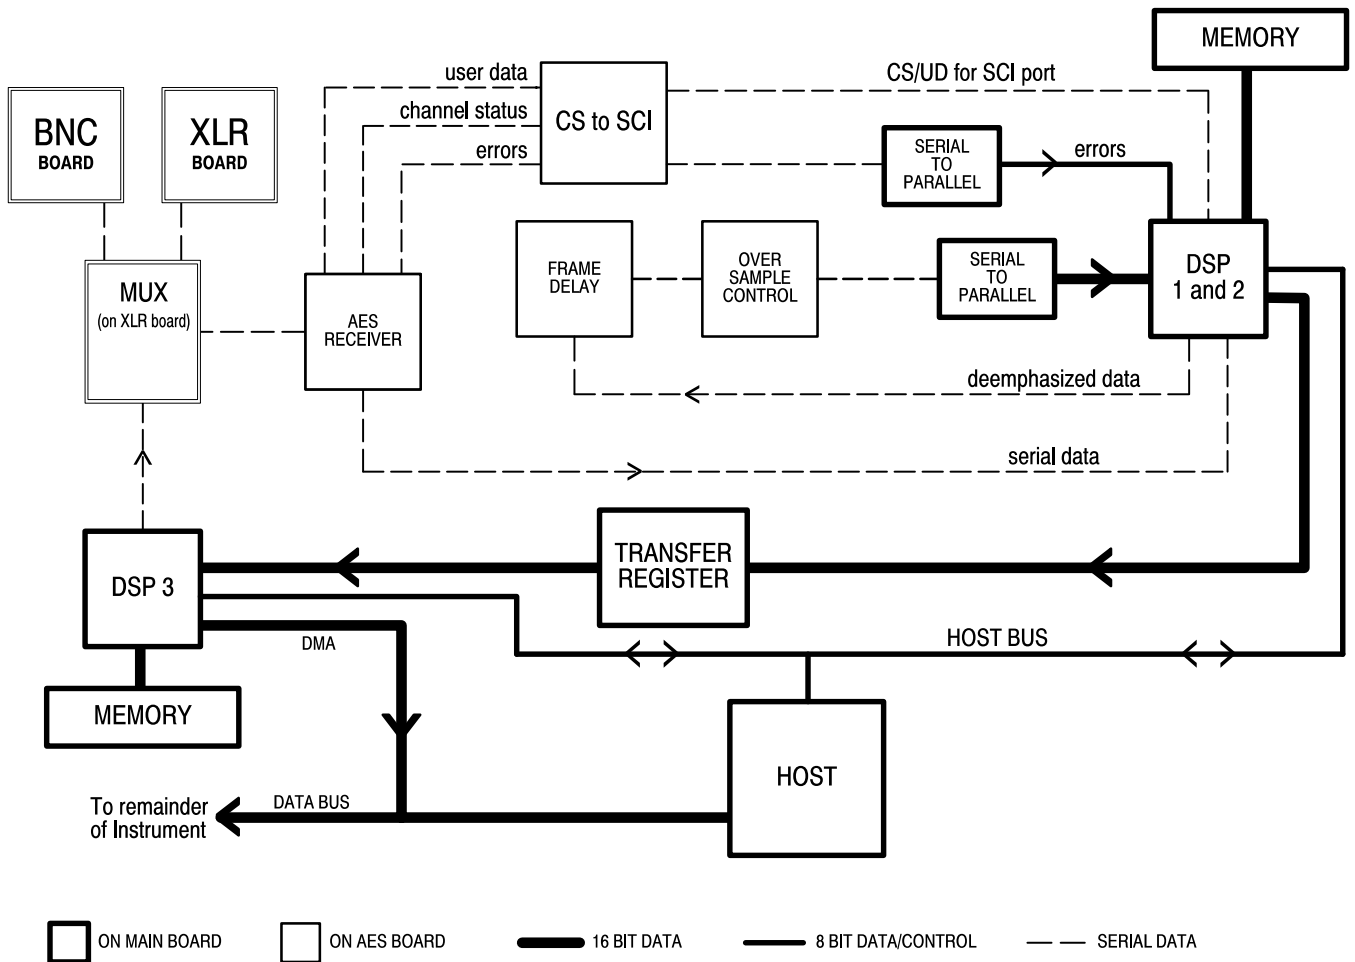
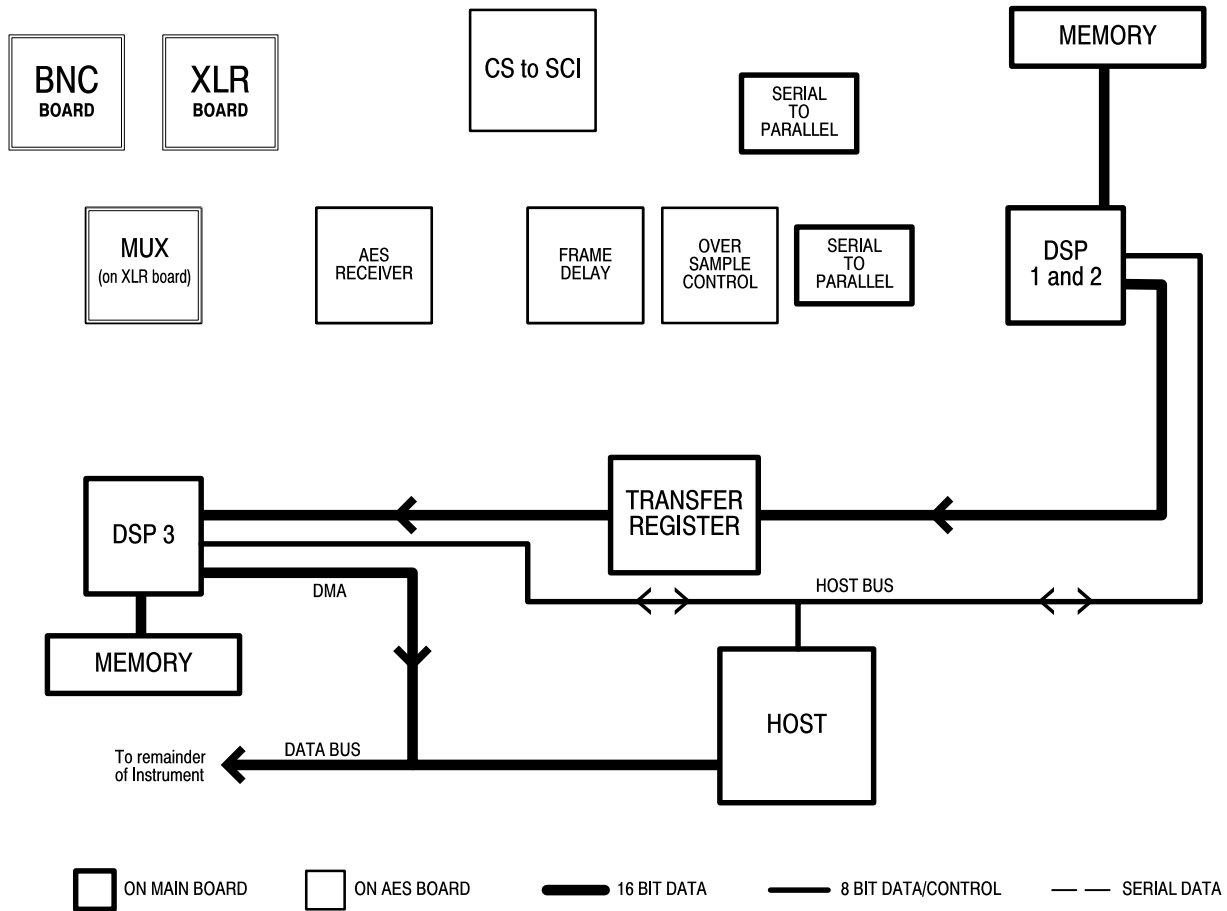

Figure 5-1: The 764 Digital Audio Monitor signal processing block diagram
Figure 5-2: The transfer register test
The diagram in Figure 5-1 shows how multiple circuit board assemblies fit into the 764 Digital Audio Monitor signal path architecture. The diagrams in Figures 5-2 through 5-9 illustrate the flow of data in the DSP and AES diagnostic tests that involve the 764 Digital Audio Monitor signal path. A short explanation of the diagnostic test accompanies each diagram. The signal path diagnostics include the following tests:
- Transfer Register tests, DSP1→3 Xfer and DSP2→3 Xfer, Figure 5-2.